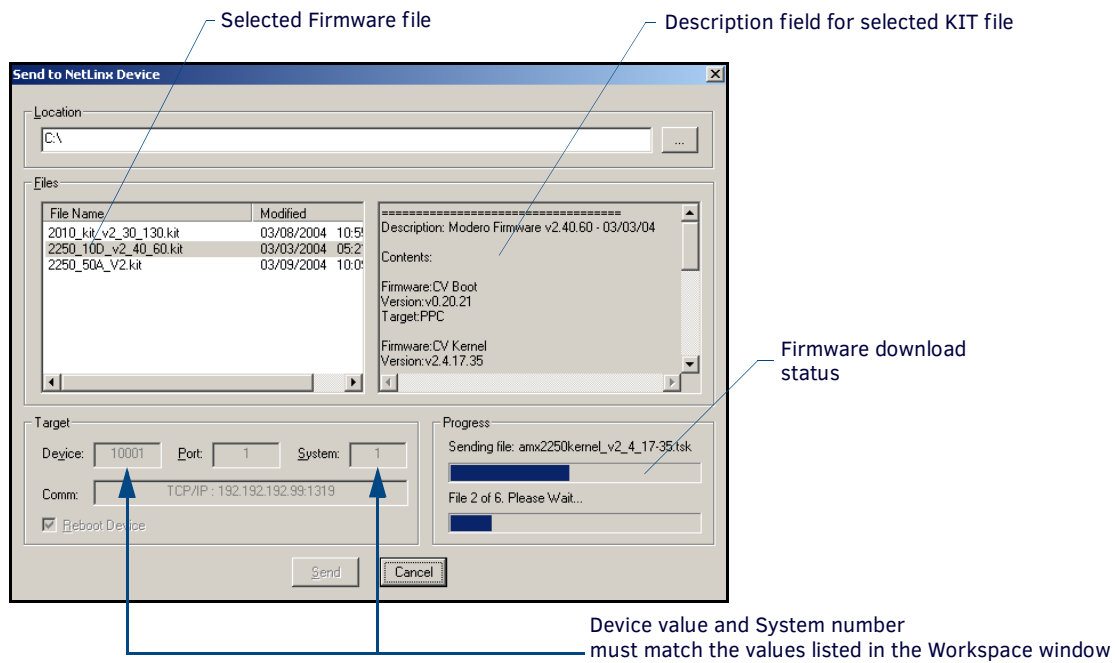

FIG. 95 Send to NetLink Device dialog (showing Modero firmware update via IP)
6. From within Studio, select **Tools > Firmware Transfers > Send to NetLinX Device** from the Main menu to open the Send to NetLinX Device dialog (FIG. 95). Verify the panel's System and Device number values match those values listed within the System folder in the **OnLine Tree** tab of the Workspace window.
7. Select the panel's KIT file from the **Files** section (FIG. 95).
10. Click **Send** to begin the transfer. The file transfer progress is indicated on the bottom-right of the dialog (FIG. 95).